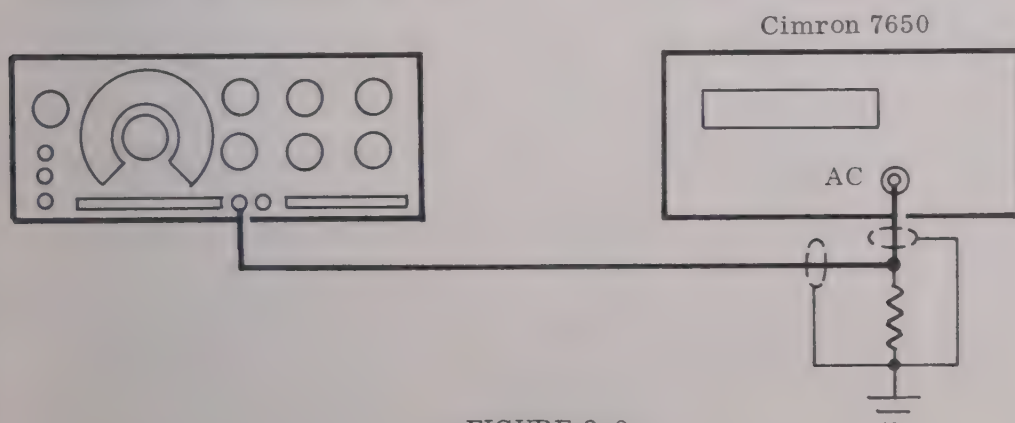

FIGURE 3-8
- 2. Interconnect the equipment as shown in Figure 3-8, observing signal and ground connections carefully.